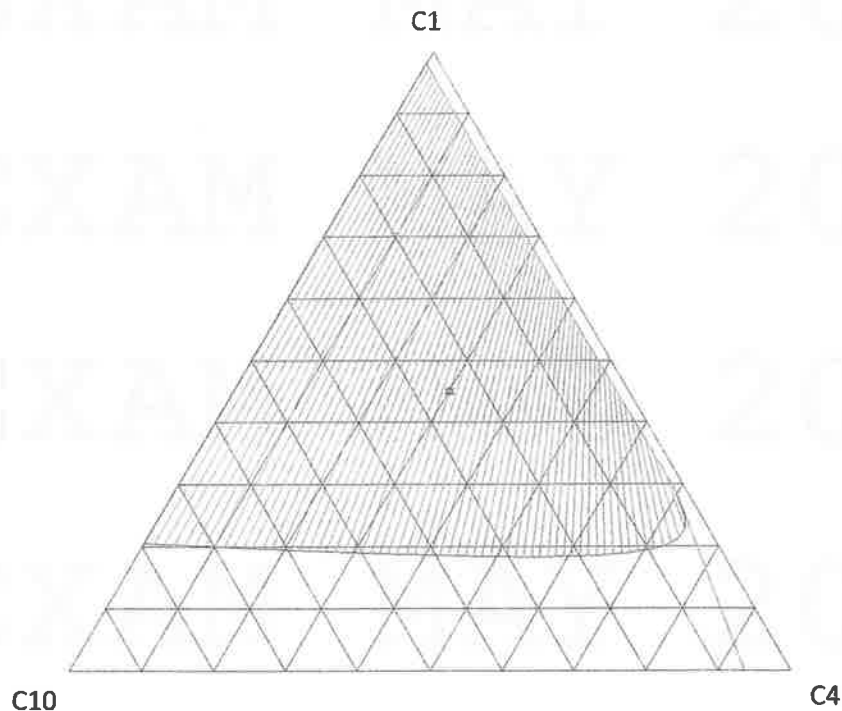

FIGURE Q3a: Ternary Diagram at 280 °F and 1000 psi
3. **FIGURE Q3a** shows vapor-liquid equilibria for methane, butane, and decane at 280 °F and 1000 psi. The lower-end of the tie line represents liquid compositions and the upper-end is for vapor compositions. Consider mixture of methane, butane and decane are 45%, 30% and 25%, respectively.
- a. Measure the ratio (by mole) of the liquid-vapor phase and estimate the compositions of each phase (vapor and liquid) using the ternary diagram. Refer to **FIGURE Q3a**